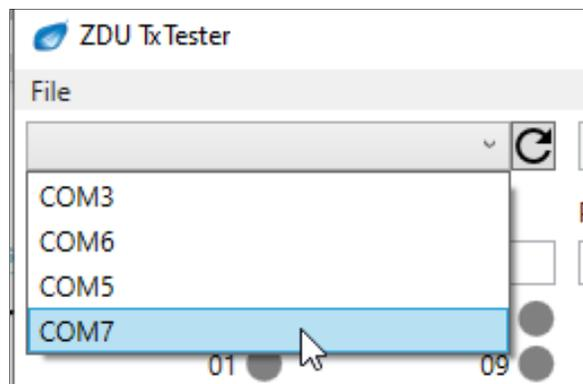

Figure 6. Port Selection Example
5. Click on the drop-down box at the top left. Select the COM port for the ZDU (COM7 in this example). See Figure 6.